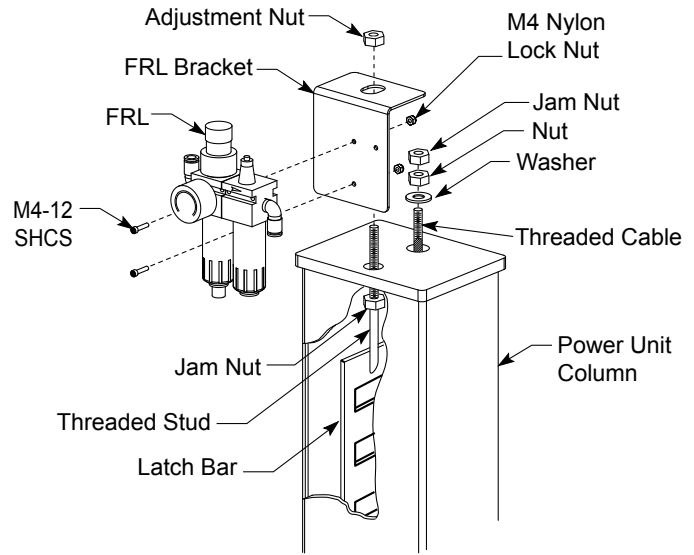

Fig. 6
- D. Place FRL Bracket on top of power unit column. Guide the threaded stud through the hole in the column top plate and bracket, Fig. 6. Then thread the adjustment nut down the threaded stud until the nut and top plate are flush, Fig. 6. Repeat for other columns.